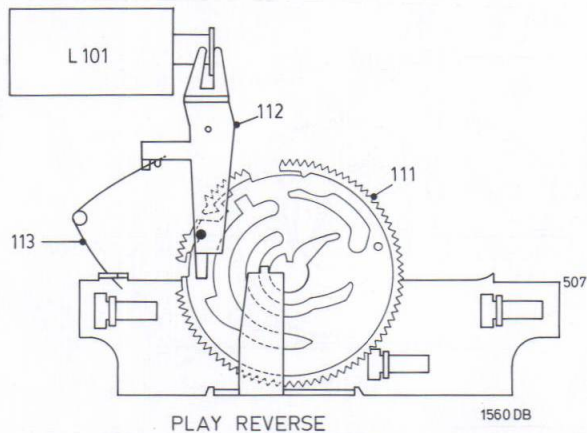

Fig. 10. Command gearwheel in Play Reverse.
To obtain the Play reverse mode the first solenoid pulse releases the command gearwheel. The second pulse is given in the part of the gearwheel where item 507 can choose for mid track or inner track. This second pulse activates bracket 112 and with the extension part of that bracket the guiding pin of item 507 is shifted onto the inner track. With this movement the total bracket 507 is moved sideways, resulting in head rotation. The gearwheel turns 3/4 quarter part equal to the Play position but now in Play Reverse defined mode. See figure 10. The first next pulse to the solenoid in the Play reverse mode will bring the mechanism back again into the stop mode in the same way as described in the play forward mode.